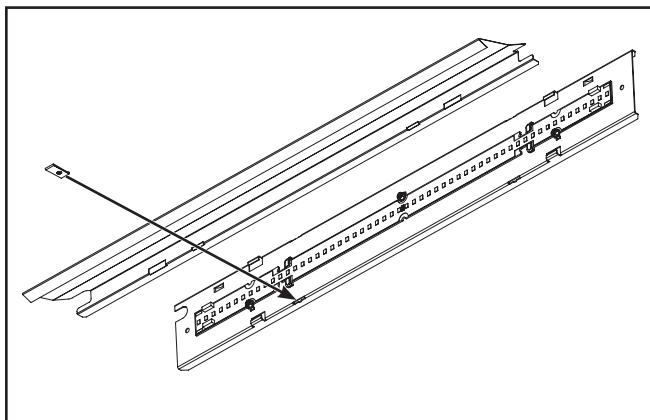

Figure 2.
2. Locate and fasten reflectors onto channel cover using clips provided (4 clips per 2 foot section, 6 clips per 4 foot section). (Figure 2.)